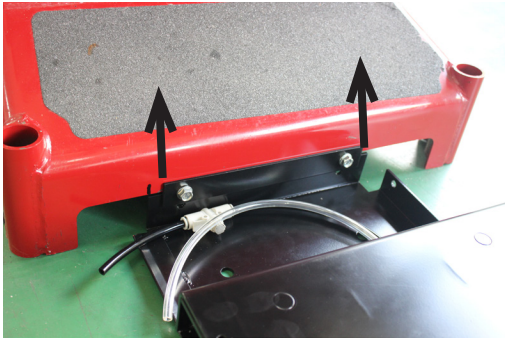

Figure 6 - Loosen the bolts and move BACK PLATE upward against the chassis edge, then tighten them.
5. Loosen the 2 bolts, lift the BACK PLATE upward until the bolt is against the chassis edge (fig 6), and then tighten the bolts.